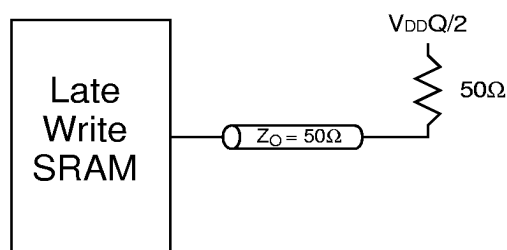
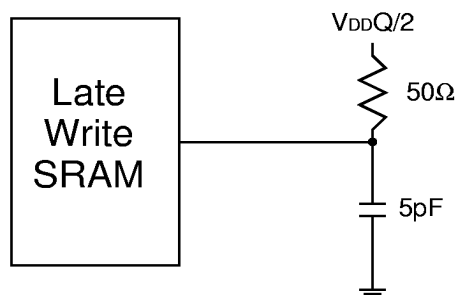

Figure 3
Figure 4
1. Output loading is specified with Figure 4. Transition is measured $\pm 200\text{mV}$ from steady state voltage.
3. This is a synchronous device. All addresses must meet the specified setup and hold times for all rising edges of CK when SS# is enabled. All other synchronous inputs must meet the setup and hold times with stable logic levels for all rising edges of clock (CK) when the chip is enabled. Synchronous select (SS#) must be valid at each rising edge of CK to remain enabled.
4. Test conditions as specified with the output loading as shown in Figure 3 unless otherwise noted.
Output load	See Figures 3 and 4